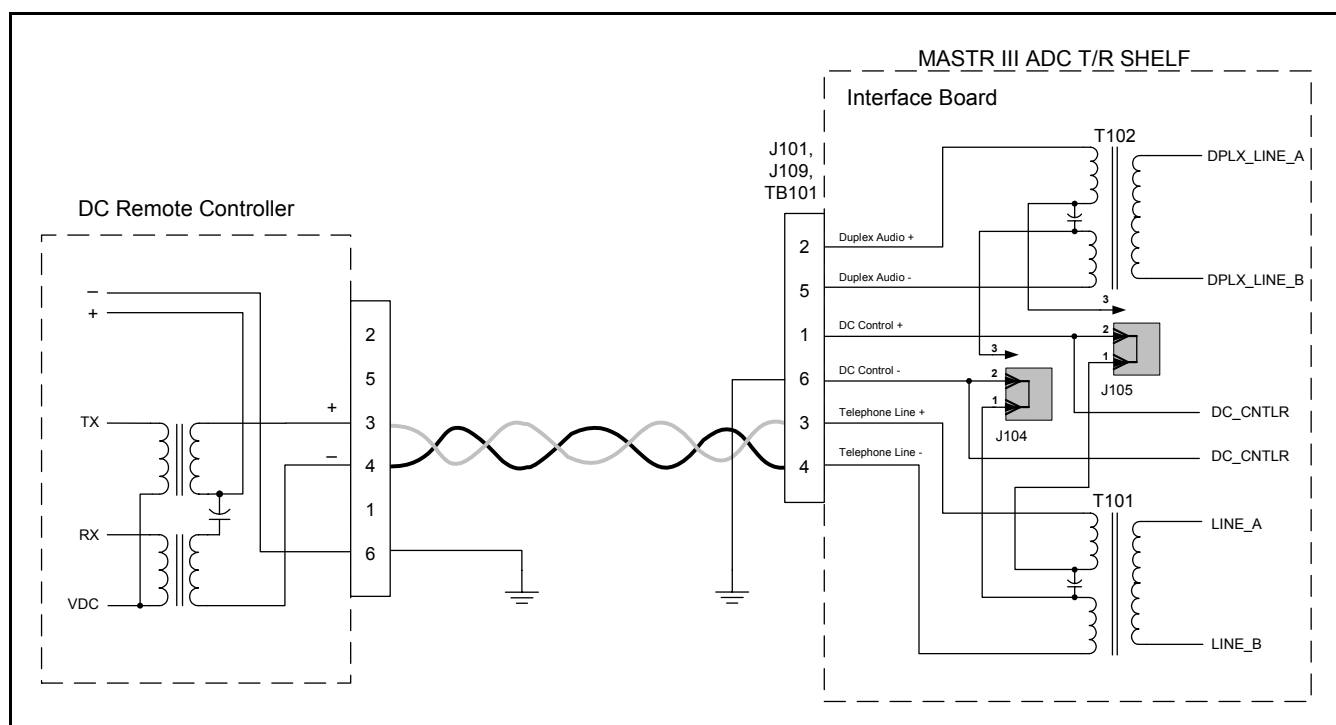

Figure 7-2: Single Metallic Pair with Earth Ground
1. Connect the metallic pair to TB101-3 (red) and TB101-4 (green). Refer to Figure 7-2.